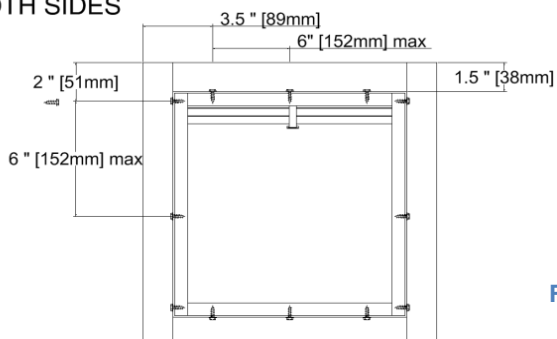

Figure 7
4. SECURING DAMPER IN OPENING (2 ANGLE METHOD): In this method 2 sets of angles are used to secure the damper in the opening, one on each side of the partition (See Figures 1-7mm). Two Angle Method is approved for 1 1/2 HR, vertical or horizontal orientation, and any maximum size multi-section UL approved damper. Angles shall be a minimum of 1 1/2" x 1 1/2" (37mmx37mm) x 16 gauge. The angles are to overlap the partition a minimum of 1"(25mm). These angles may be of a unit type construction and may or may not be fastened to each other at the corners. Angles are to be fastened to the sleeve on 6" centers with #10 (M5mm) sheet metal screws, 3/16" (5mm) steel pop rivets, 1/2" (13mm) tack welds, or 1/4" (6mm) diameter nut and bolts with not more than 2" (51mm) from each end with a minimum of two connections per side/leg. When the duct work terminates at the damper or installation prohibits angles from turning out/away from the wall, the retaining angle shall be reversed (leg turned into the opening) providing the size of the opening is increased by an amount equal to twice the combined thickness of the angle and the height of the screw or bolt head to maintain expansion clearances. See note 1A for information on clearances. See Fig. 7 for detailed drawings of installations. Retaining angles should not be fasten to the wall / floor material. The angles should only sandwich the partition and allow for damper / sleeve expansion during periods of intense heat.